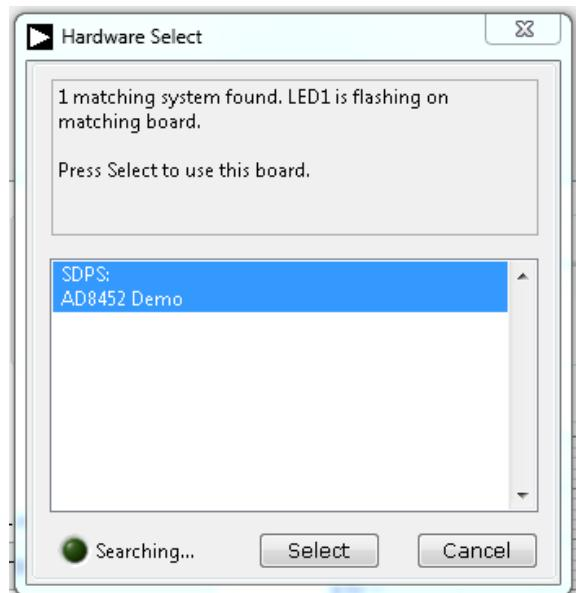

Figure 13. Software Detects Evaluation Board
3. When the AD8452 analog interface board is detected, the message in Figure 13 displays. Click Select to continue.